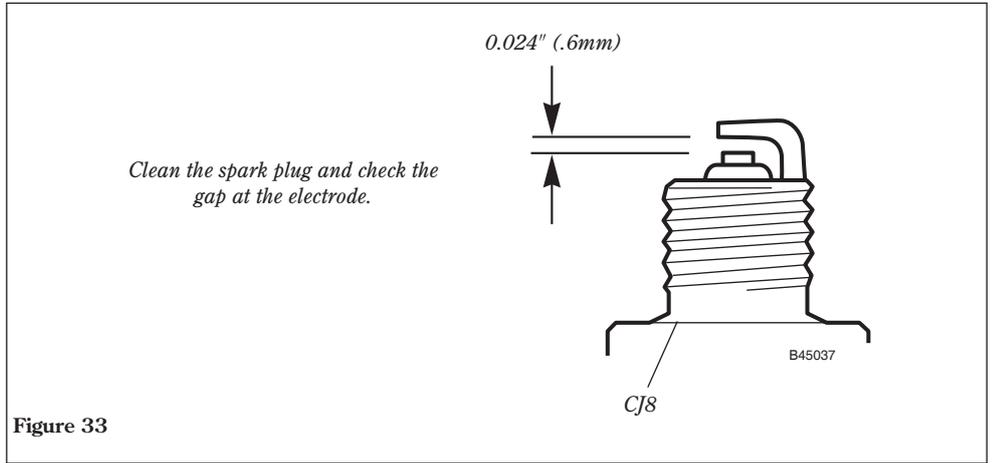

Figure 33
- Remove and clean the spark plug. Check the spark plug electrode gap. If needed gap plug to 0.024" (0.6 mm). See Figure 33.